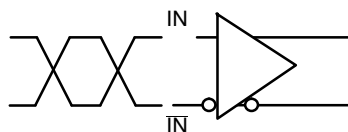

Figure 11. Differential Inputs Driven Differentially
**DIFFERENTIAL INPUTS DRIVEN DIFFERENTIALLY** (Note 9) (Figures 11 and 12)